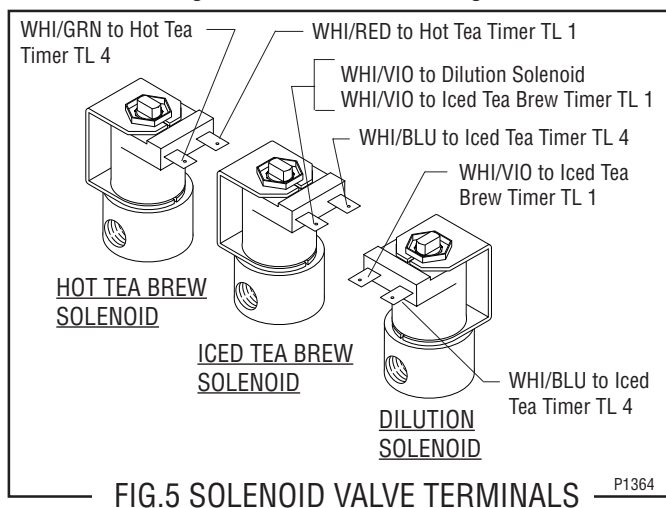

FIG. 5 SOLENOID VALVE TERMINALS P1364
10. Refer to Fig. 5 when reconnecting the wires.